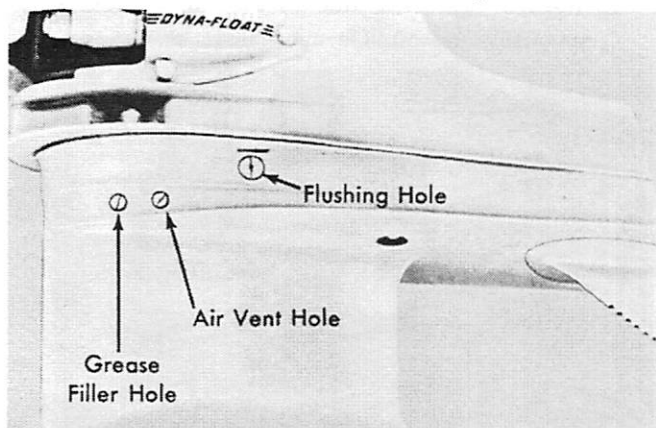

Figure 1. Filler Hole and Vent Screw
1. Drain EXTRA-DUTY Lubricant from gear housing by removing filler hole screw and vent screw. (Figure 1 or 15) Do not lose washers. Replace washers and screws after draining.